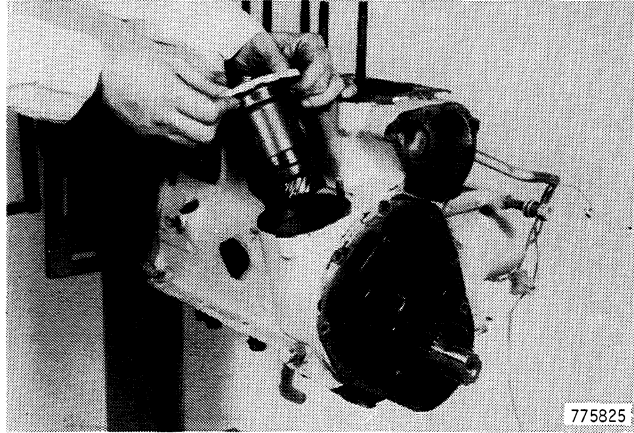

Figure 79
1. Pull oil pump and fuel injection pump drive from the engine block, Figure 79.